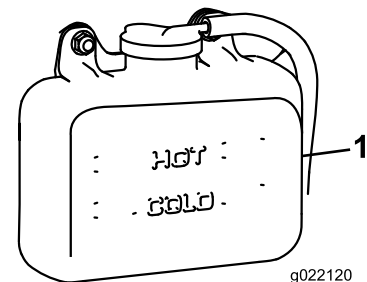

Figure 65
- Check the level of the coolant in the expansion tank (Figure 65).